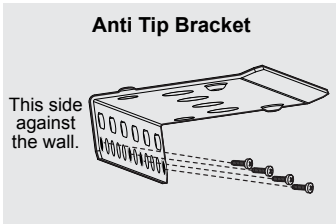

Figure 3
- Hold the bracket where the wall is marked for the stud and mark the 2 corner holes and any 2 center holes of the bracket on the wall. Be sure a center hole location is aligned with the vertical stud line made in step 4 (see Figure 3).